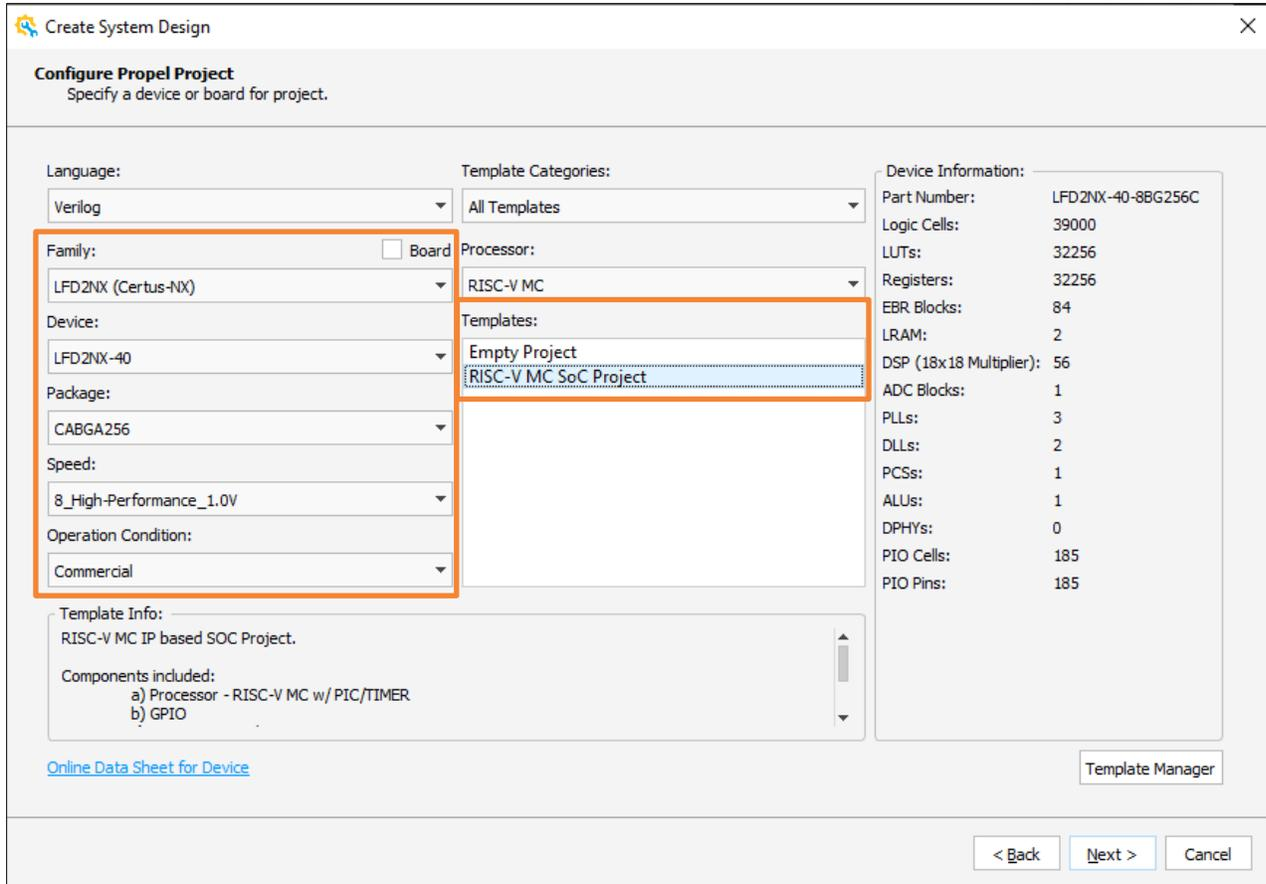

Figure 2.4. Specify a Device for Template SoC Project
5. Select **Template SoC Project (RISC-V \*\*\* Project)** or **Empty Project** in the **Templates** field (Figure 2.4).